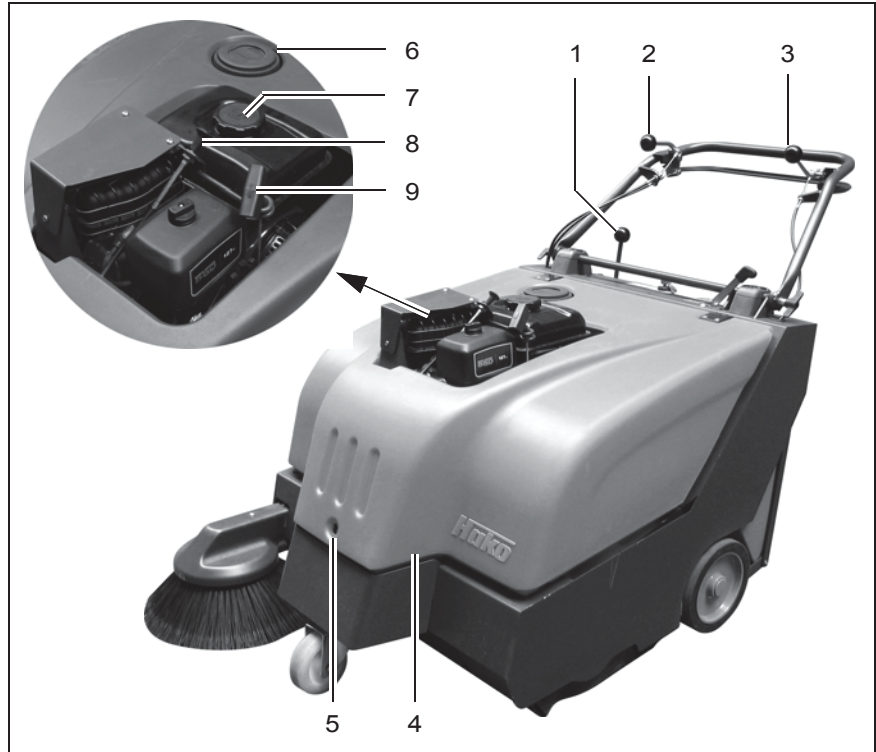

Fig. 7
Unscrew the fuel tank cap (Fig. 7/7) and fill approx. 2.5 l gasoline. Screw the fuel tank cap back on.
Side brush lever (Fig. 7/1)
Parking brake lever (Fig. 7/2)
Folding apron lever (Fig. 7/3)
Hood with lock (Fig. 7/4)
The hood should only be opened for maintenance and repair work. In this case, unlock the lock (Fig. 7/5) using a square wrench and pivot the hood up.
Bypass flap (Fig. 7/6)
Fuel tank cap (Fig. 7/7)
Choke (Fig. 7/8)
Recoil starter (Fig. 7/9)
2. Pull out the choke (Fig. 7/8) in the case of a cold start.
3. Pull the recoil starter cord (Fig. 7/9) until the starter clutch perceptibly engages (slight resistance) and then pull the starter cord (Fig. 7/9) hard and fast to start the engine.
4. Release the starter cord (Fig. 7/9) and let it recoil back into the housing.
5. Then push the choke (Fig. 7/8) back in, slowly.